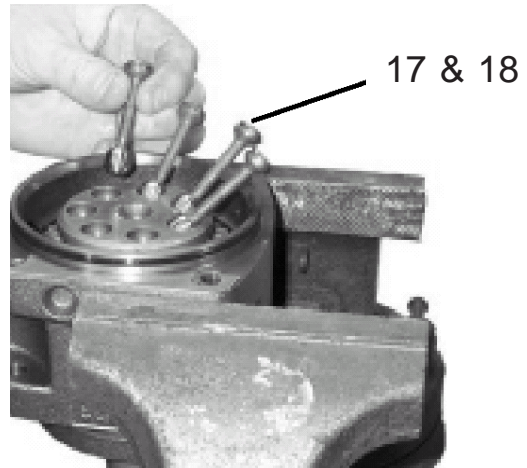
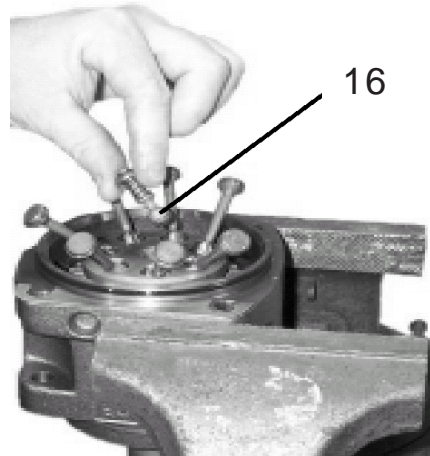

Figure 29
Figure 30
12. Install Pistons & Piston Rings. Coat the pistons (item 17) with hydraulic oil, make certain all 7 pistons have 3 rings (item 18) each on them. (See Figure 29). Piston will lay over to the side as shown in figure 29 but will slip down into the holes as shown in Figure 30.
13. Install Barrel Support. The Barrel Support (item 16) is a 4 piece assembly that installs in the center of the shaft, make certain all components of the barrel support is installed. (See Figure 30)